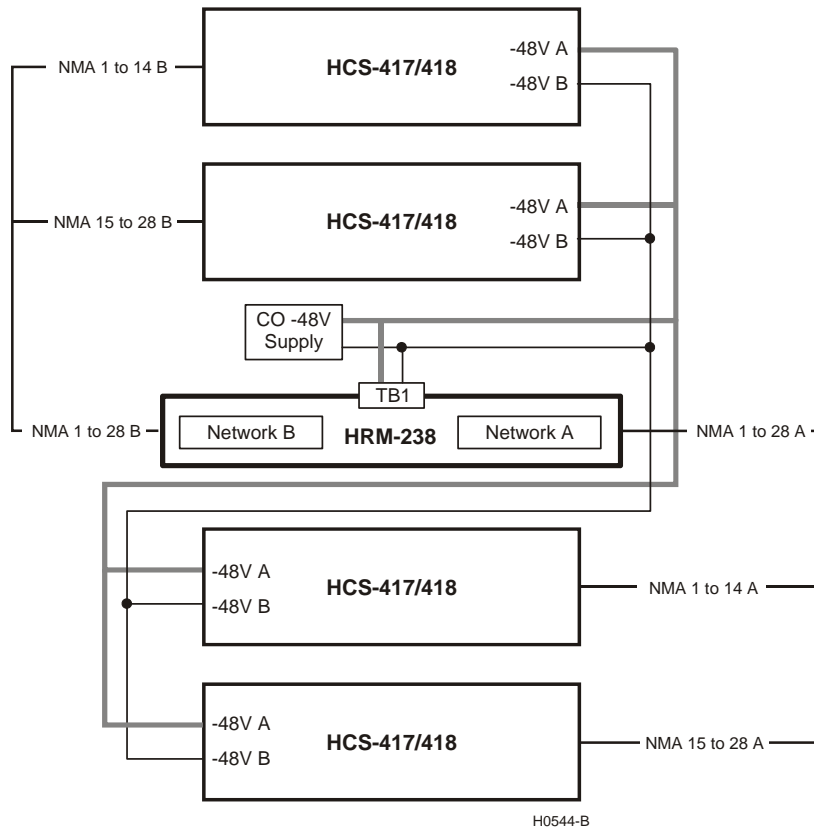
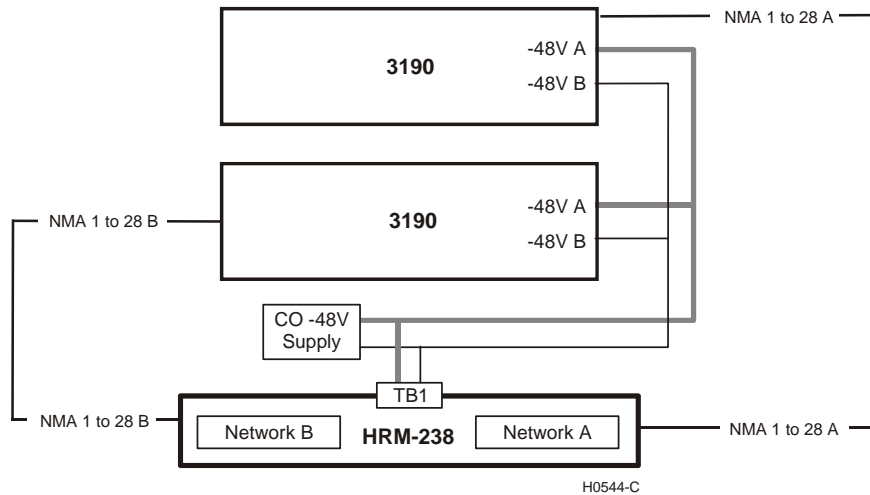
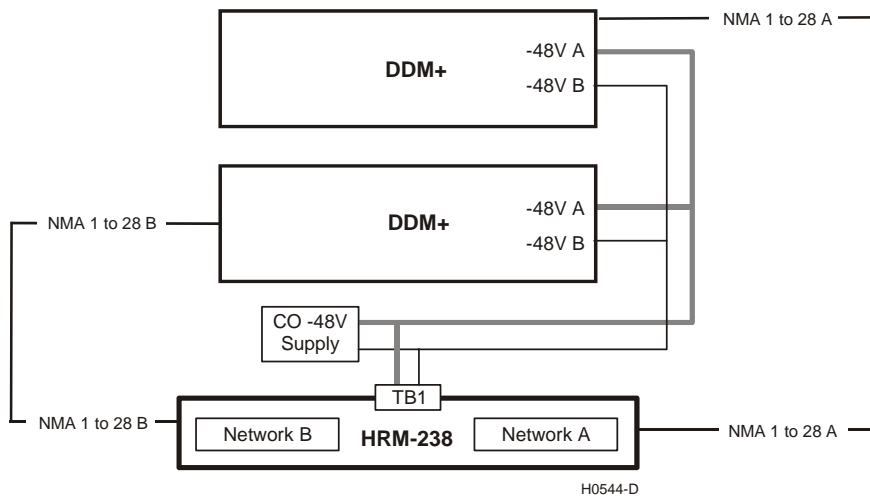
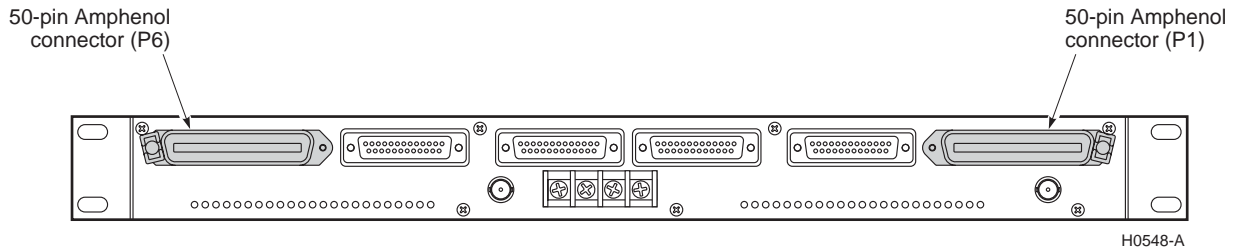

Figure 2. Recommended Network Setup for 220 Type Shelves
Figure 3. Recommended Network Setup for 3190 Type Shelves
Figure 4. Recommended Network Setup for DDM+ Type Shelves
Figure 8. Connect NMA Wiring
The configuration shown in Figure 2 is the recommended setup for 220 type mechanics shelves. Position the HRM-238 shelf between the 220 type shelves, with up to two 220-type shelves above and two below. This limits the distance for the wire leads between the connectors for the management units and the line units they manage. Figure 2 shows the HRM-238 shelf from the rear view with the A-side connectors on the right and the B-side connectors on the left. The leads from the HRM-238 shelf connector attach to the Network Management Agent (NMA) pins on the rear of the 220-type mechanics shelves for each line unit managed. The NMA pin on 220 type chassis is pin 46.
The configuration shown in Figure 3 is the recommended setup for 3190 type mechanics shelves. Position the HRM-238 shelf below the 3190 type shelves. This limits the distance for the wire leads between the connectors for the management units and the line units they manage. Figure 3 shows the HRM-238 shelf from the rear view with the A-side connectors on the right and the B-side connectors on the left. The leads from the HRM-238 shelf connector attach to the Network Management Agent (NMA) pins on the rear of the 3190-type mechanics shelves for each line unit managed. The NMA pin on 3190 type chassis is pin 7.
The configuration shown in Figure 4 is the recommended setup for DDM+ type mechanics shelves. Position the HRM-238 shelf below the DDM+ type shelves. This limits the distance for the wire leads between the connectors for the management units and the line units they manage. Figure 4 shows the HRM-238 shelf from the rear view with the A-side connectors on the right and the B-side connectors on the left. The leads from the HRM-238 shelf connector attach to the Network Management Agent (NMA) pins on the rear of the DDM+ type mechanics shelves for each line unit managed. The NMA pin on DDM+ type chassis is pin 104.
- 1 Position the HRM-238 shelf in the CO rack. (See “Operational Capabilities” on page 2, and Figure 2 on page 2, Figure 3 on page 3, or Figure 4 on page 3 for recommended placement.)
From the 50-pin Amphenol connector P1 and/or P6 (Figure 8), wire directly to the NMA pin 46 on the 220-type shelf backplane for each line unit being managed. Route wires from the P1 and P6 connectors to the NMA 220-type mechanics shelves as shown in Figure 2 on page 2. Refer to Table 3 for P1 and P6 NMA connector information.